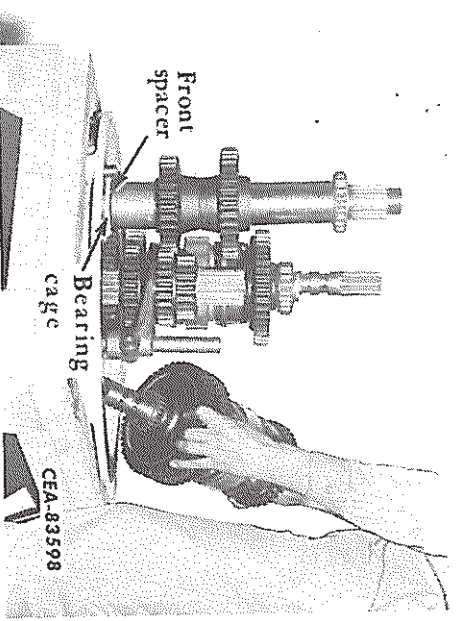

FIG. 80 — Installing the Reverse Clutch Shaft
47. Set the pinion shaft in the front cover allowing the front spacer to rest on the bearing cage. Install the reverse clutch shaft (Fig. 80).